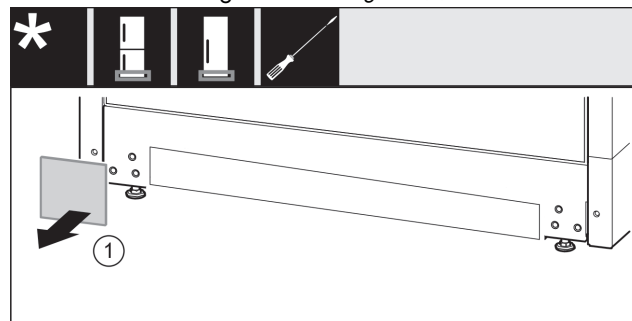

Fig. 33
- Take off the cover. Fig. 33 (1)